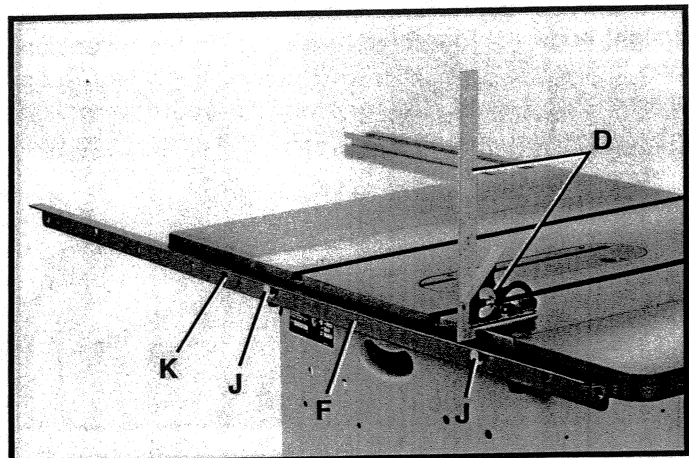

Fig. 14
5. **IMPORTANT:** Before tightening mounting hardware (J) Fig. 14, and using a square (D), make certain the top of rear guide rail (F) is approximately 1/2" below the surface of the saw table and extension wings. Tighten mounting hardware (J).